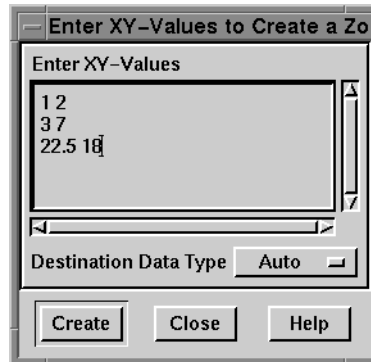

Figure 25-12. The Enter XY-Values to Create a Zone dialog.
1. From the Data menu, choose Create Zone, then choose Enter XY. This action calls up the Enter XY-Values to Create a Zone dialog, as shown in Figure 25-12.